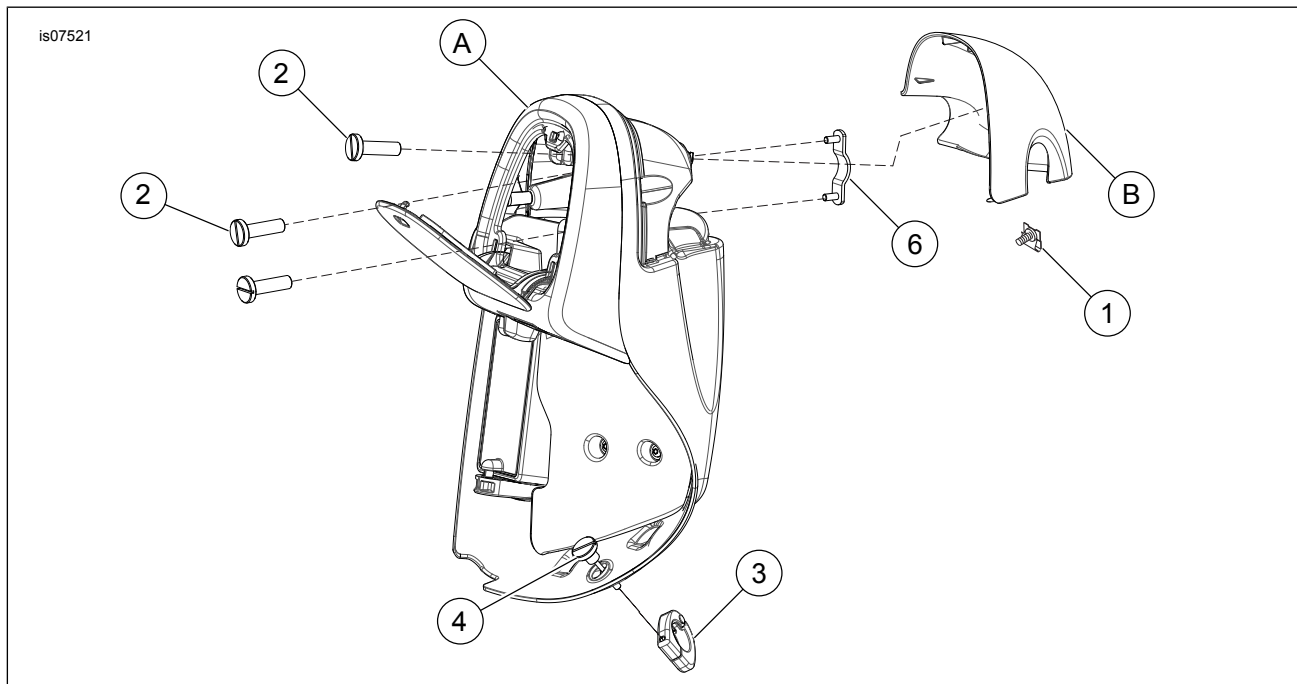

Figure 3. Service Parts: Detachable Fairing Lower Hardware Kit
See Figure 3 and Table 1.
1. See Figure 3. Press new clip retainer bolt (1) onto clip mount.
3. See Figure 3. Insert thumb screw (4) through top side of fairing lower (A). Apply small amount of anti-seize lubricant to thumb screw (4). Thread thumb screw (4) into top half of engine guard clamp (3).
4. Attach fairing lower (A) and engine guard clamp (3) to engine guard, hinge portion of engine guard clamp (3) should face toward the front of the motorcycle. Loosely thread thumb screw (4) into lower portion of engine guard clamp (3).
5. Install retainer plate (6) with thumb nuts (2). Do not tighten at this time.
6. Position fairing lower (A) to upper section of engine guard. Install fairing cap (B) over engine guard and install retainer bolts (1) through mounting holes in fairing lower (A). Install thumb nut (2) into retainer bolt (1), but do not tighten.
7. Adjust fairing lower (A) on the engine guard to its desired position, securely tighten thumb screw (4) in engine guard clamp (3).
8. Securely tighten three thumb nuts (2).